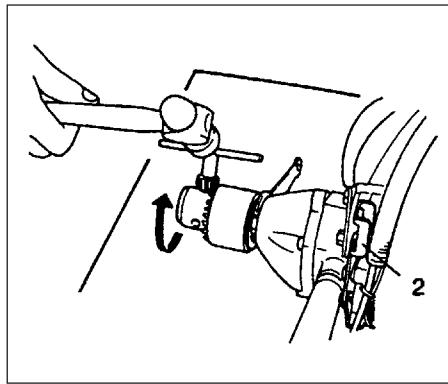

Fig. 2-6B
- To loosen the chuck, set the spanner on the other side and hit the chuck handle from this side to screw out (counter-clockwise), the chuck with the lock lever on. (TED-270PFL/270PFLS/270PFDH/270PFDS/270PFHS) (Fig. 2-6B)